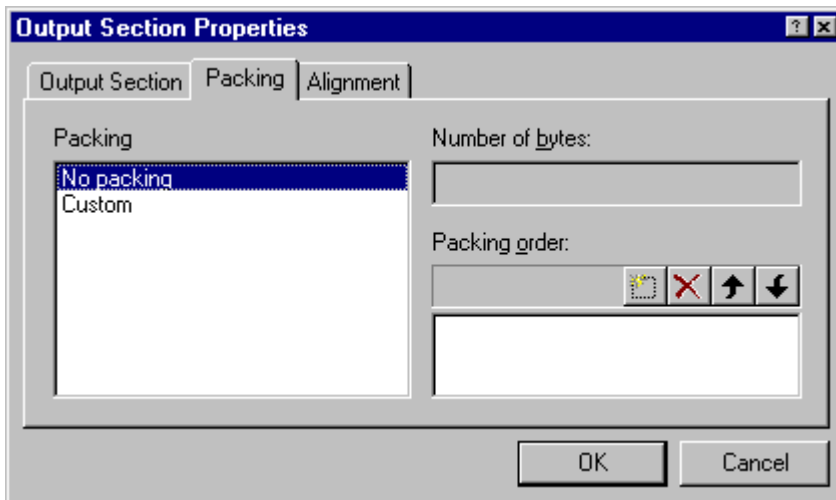

Figure 4-50. Memory Segment Properties Dialog Box – Packing Tab
2. Choose **Properties** and click the **Packing** tab (Figure 4-50).